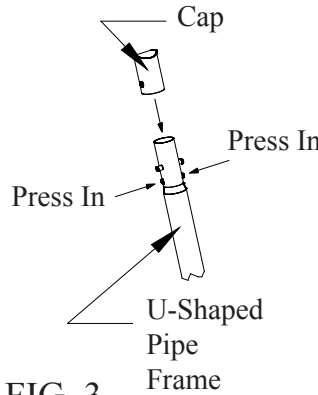

FIG. 3
3. Now locate the (U-Shape) pipe frames. Each end of the (U-Shape) pipe will have a cap to be installed on it. Locate the pipe caps and install those, push the buttons in as you insert the cap onto the pipes end Fig. 3. Look through the holes in the cap as you install it and slightly rotate the cap until the buttons align with the holes and pop up, locking the cap onto the pipes end. Now place a (U-Shape) pipe at each of the rectangular flaps along the base of the pool.